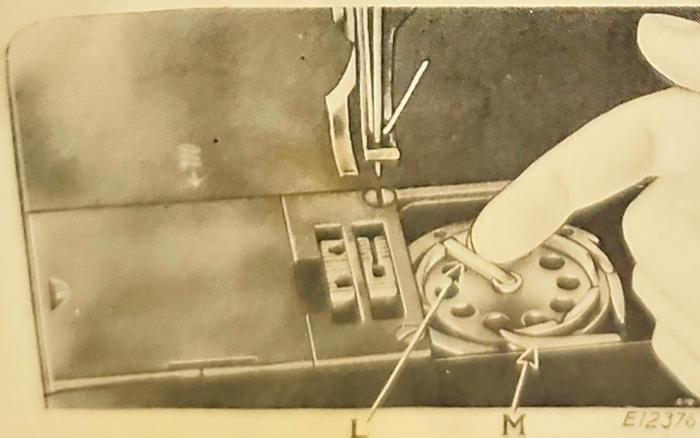

Fig. 7. Removing the Bobbin
Draw back the slide plate in the bed of the machine and turn the balance wheel until the bobbin case opener (M, Fig. 7) moves clear of the bobbin. With the forefinger or a screwdriver, raise the latch (L) to a vertical position and lift out the bobbin.